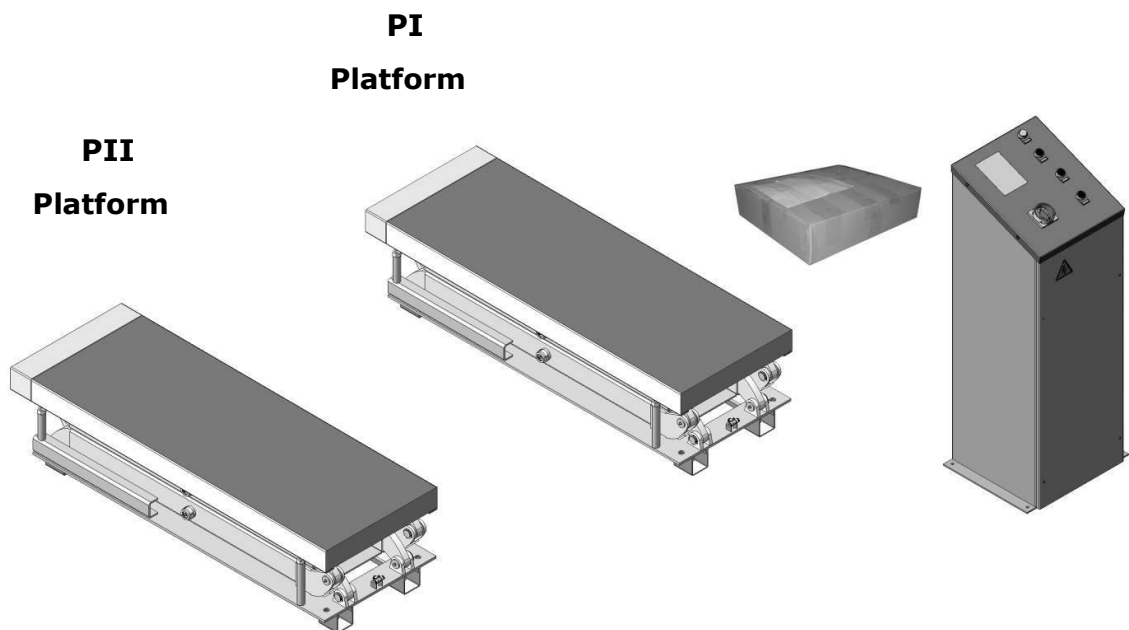

Fig. 5
2. Move the parts aside, open the outer packing and check the parts according to the shipment parts list (**See Fig. 5**).